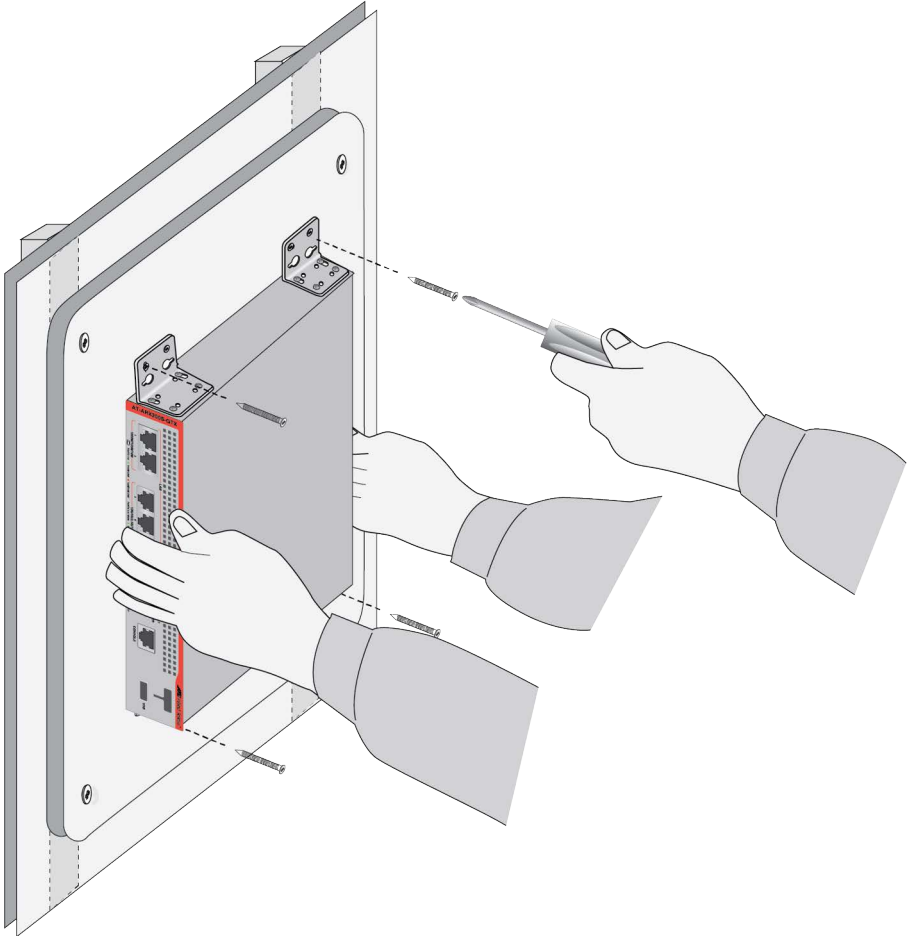

Figure 49. Installing the ARX200S Router Series on a Plywood Base
- You can install the router with the front panel facing up, left, or right, Figure 49 on page 83 shows the router with the faceplate on the left.